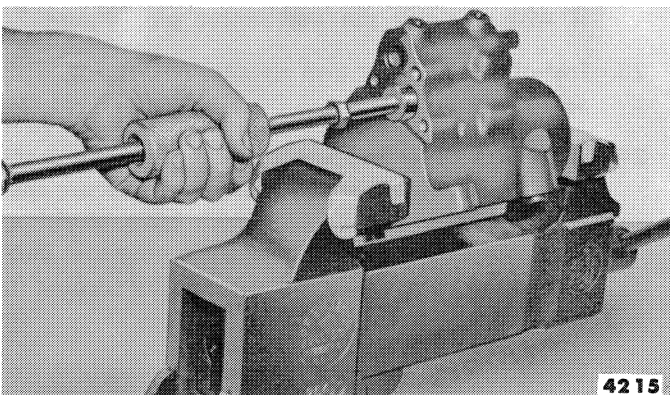

Figure 9—Removing Unloading Valve Plug
3. Remove the unloading valve plug from the cylinder assembly, using a slide hammer as shown in Figure 9. Remove the unloading valve and discard the "O" rings.
7. Install the unloading valve plug, using the same slide hammer tool used in removal, Figure 9.